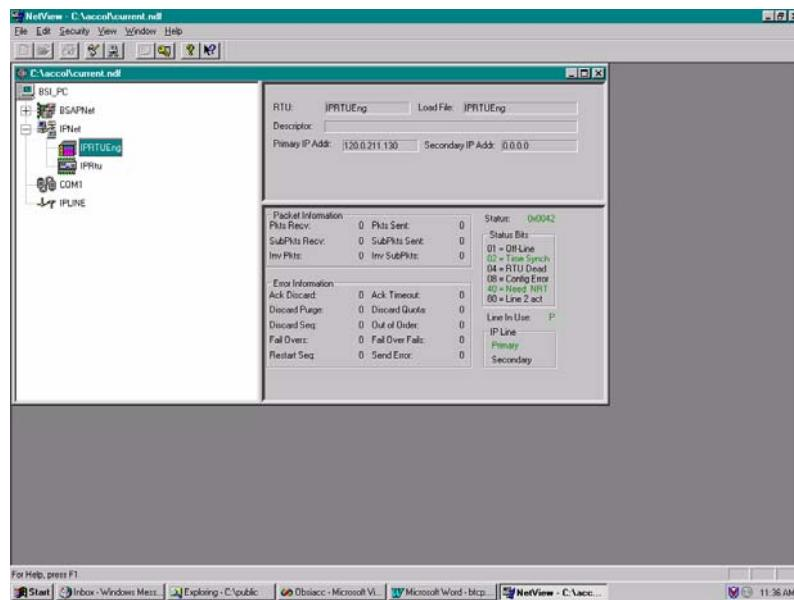

Figure 5-19. NetView
1. Start the NetView program in OpenBSI with your current network NETDEF file. A menu displays (similar to the one in *Figure 5-19*):